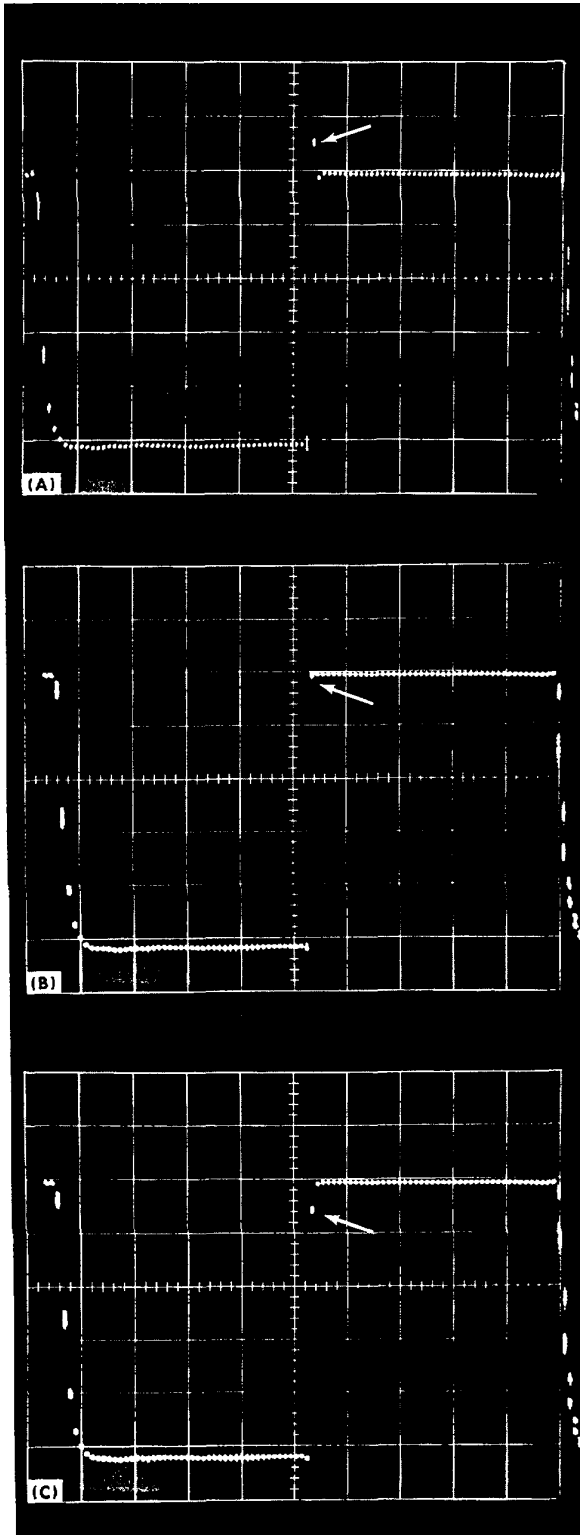

Fig. 7-1. Typical photographs showing Dot Response Range, (A) clockwise, (B) counterclockwise, (C) centered with unity dot response.
d. Adjust the trigger sensitivity of the Type 3T77A for a stable display, and set the Time Position control for no dots along the positive square wave transition as shown in Fig. 7-1.